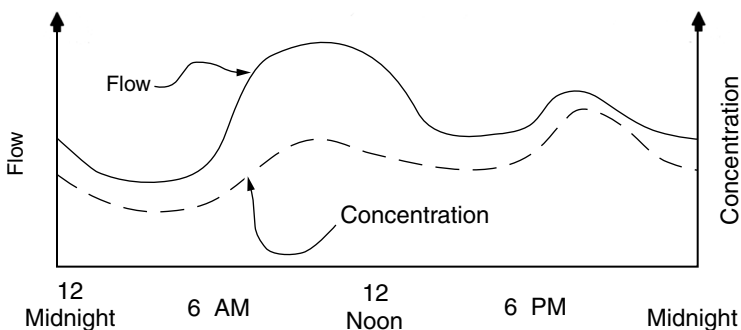

FIGURE D-6 Diurnal hydrograph.
**Diurnal hydrograph** Shows the diurnal fluctuations in water consumption, wastewater discharge, or pollutant concentration, hour by hour, usually from 12:00 a.m. to 12:00 midnight. See Figure D-6.